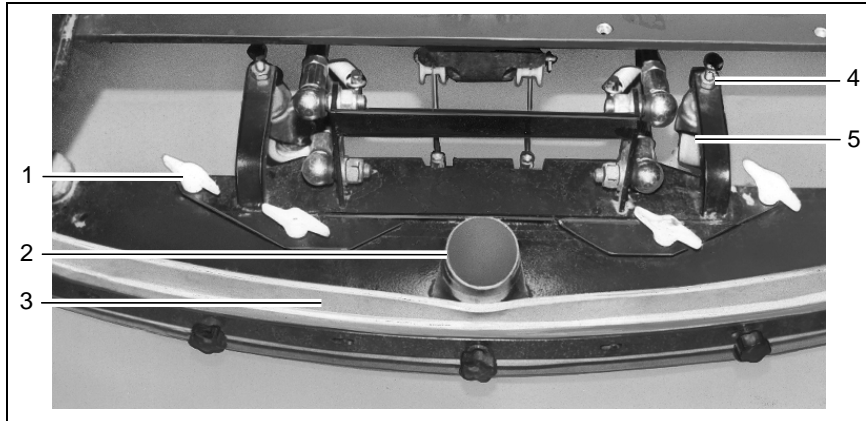

Fig. 8
5. Slide the squeegee from the rear under the lowered holding attachment and fix the squeegee to it with the four wing nuts (Fig. 8/1).
6. Attach the suction hose to the connection nozzle (Fig. 8/2) of the squeegee.
The squeegee must be set up on a level floor according to the conditions in which it is to be used. The squeegee must stand vertically on the floor (adjusted at the factory). The sealing strip (Fig. 8/3) should bend slightly to the rear when the vehicle is in operation. Supporting rollers (Fig. 8/5) limit its movement toward the floor. These support rollers must be adjusted in order to raise the contact surface of the squeegee:
- Loosen the counternuts (Fig. 8/4) and raise the supporting rollers on the left and right evenly (turn screw counterclockwise and lock again).